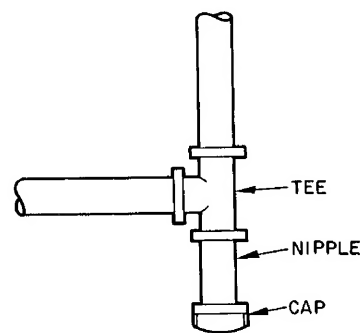

Fig. 7—Sediment Trap
4. Install a sediment trap in riser leading to the heating section. See Fig. 7. This drip leg functions as a trap for dirt and condensate. Install trap where condensate cannot freeze. Install this sediment trap by connecting a piping tee to riser leading to heating section, so that straight-through section of tee is vertical. Then, connect capped nipple into lower end of tee. Extend capped nipple below level of gas controls.